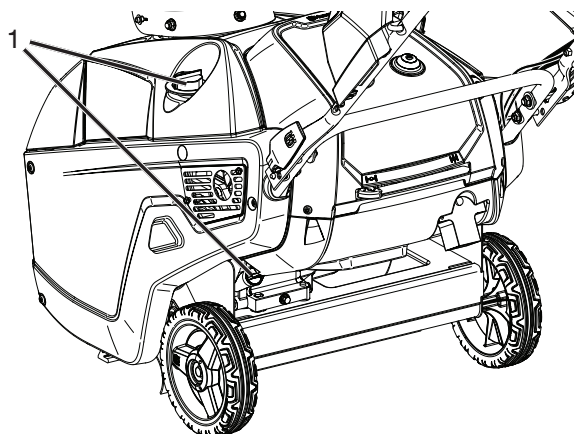

Figure 23
7. Clean around the oil filler cap/dipstick (Figure 23).